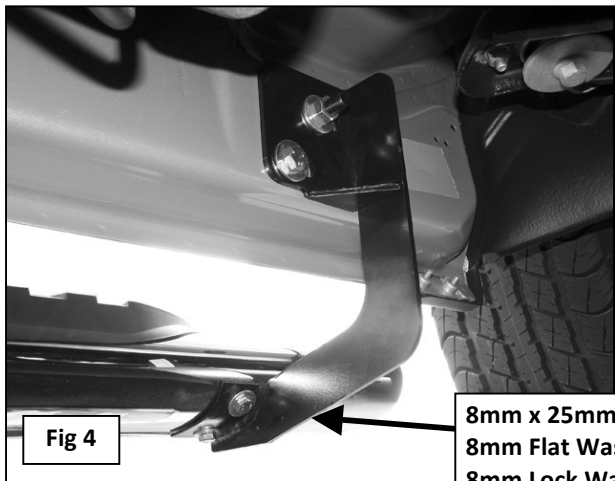

Fig 4
5. Once all of the driver side Brackets have been installed, carefully position the driver Sidebar onto the (3) Mounting Brackets. Attach the Sidebar to the cradles on the Mounting Brackets with the included (6) 8mm x
25mm Hex Bolts, (6) 8mm Lock Washers, and (6) 8mm Flat Washers, (**Figure 4**). Do not tighten hardware at this time. **IMPORTANT:** If you are having any difficulty with installation, check Mounting Bracket location first. Use the illustration on **Page 1** to identify the Mounting Brackets.